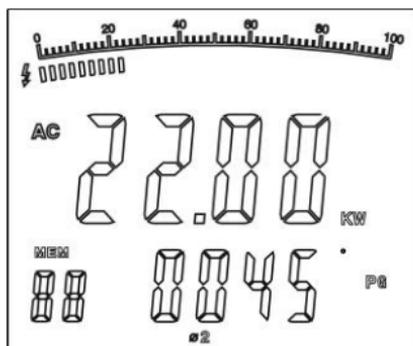

Figure 9
2. After record the current power measurement value of the first phase, then press **SEL** to choose $\text{Ø}2$, The double display shows the value of acitve power kW and PG of the second phase **2**. as figure 9